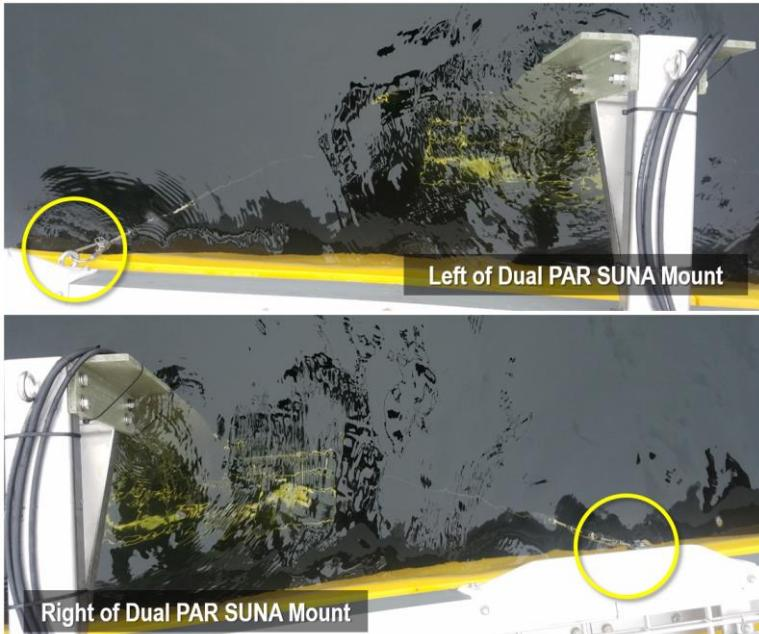

Figure 67. Underwater Eyebolts for Dual PAR SUNA Mount
STEP 10 | Re-attach the guy-wires via the locking carabiners to each eyebolt underwater (Figure 67).